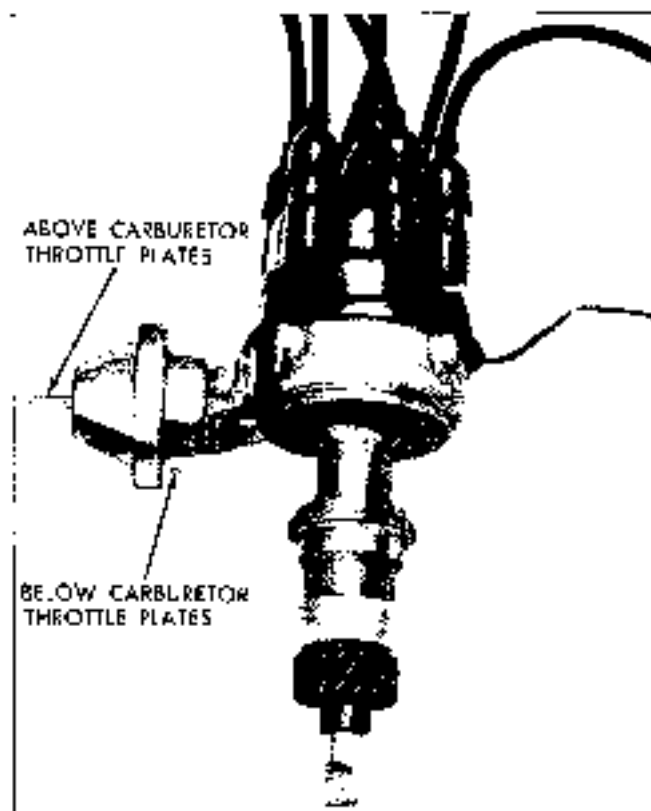

Fig. 6E-23 Positions of Vacuum Hoses - V-8 Distributor
1. Check to see that engine is at firing position for No. 1 cylinder (No. 1 piston at top of compression stroke) and timing mark on harmonic balancer is indexed with the proper mark on the lower timing belt cover (Fig. 6E-29).
3. Before installing distributor, index rotor with housing as noted when distributor was removed (Fig. 6E-24). This will simplify indexing the distributor shaft and gear with oil pump drive shaft and distributor drive gear. Distributor and rotor will be positioned properly when installed with No. 1 piston in firing position.